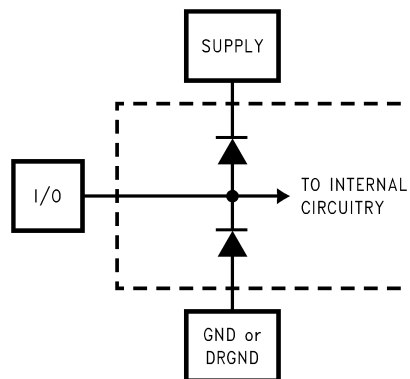

Figure 1.
- (1) The inputs are protected as shown below. Input voltage magnitudes above  $V_A$  or below GND will not damage this device, provided current is limited per (1). However, errors in the A/D conversion can occur if the input goes above  $V_A$  or below GND by more than 100 mV. As an example, if  $V_A$  is 4.75V, the full-scale input voltage must be ≤4.85V to ensure accurate conversions. See Figure 1
- (2) To ensure accuracy, it is required that  $|V_A - V_D| \leq 100$  mV and separate bypass capacitors are used at each power supply pin.
- (3) With the test condition for  $V_{REF} = +2.0V$  (4VP-P differential input), the 12-bit LSB is 977 μV.
- (4) Typical figures are at  $T_A = T_J = 25^\circ C$ , and represent most likely parametric norms. Test limits are specified to TI's AOQL (Average Outgoing Quality Level).
- (5) Integral Non Linearity is defined as the deviation of the analog value, expressed in LSBs, from the straight line that passes through positive and negative full-scale.
- (6) Optimum performance will be obtained by keeping the reference input in the 1.8V to 2.2V range. The LM4051CIM3-ADJ (SOT-23 package) is recommended for this application.
- (1) The inputs are protected as shown below. Input voltage magnitudes above  $V_A$  or below GND will not damage this device, provided current is limited per (1). However, errors in the A/D conversion can occur if the input goes above  $V_A$  or below GND by more than 100 mV. As an example, if  $V_A$  is 4.75V, the full-scale input voltage must be  $\leq 4.85V$  to ensure accurate conversions. See Figure 1
- (3) With the test condition for  $V_{REF} = +2.0V$  (4VP-P differential input), the 12-bit LSB is 977  $\mu V$ .
- (5) Typical figures are at  $T_A = T_J = 25^\circ C$ , and represent most likely parametric norms. Test limits are specified to TI's AOQL (Average Outgoing Quality Level).
- (6)  $I_{DR}$  is the current consumed by the switching of the output drivers and is primarily determined by load capacitance on the output pins, the supply voltage,  $V_{DR}$ , and the rate at which the outputs are switching (which is signal dependent).  $I_{DR} = V_{DR}(C_0 \times f_0 + C_1 \times f_1 + \dots + C_{11} \times f_{11})$  where  $V_{DR}$  is the output driver power supply voltage,  $C_n$  is total capacitance on the output pin, and  $f_n$  is the average frequency at which that pin is toggling.
- (7) Excludes  $I_{DR}$ . See previous note.
- (1) The inputs are protected as shown below. Input voltage magnitudes above  $V_A$  or below GND will not damage this device, provided current is limited per 0. However, errors in the A/D conversion can occur if the input goes above  $V_A$  or below GND by more than 100 mV. As an example, if  $V_A$  is 4.75V, the full-scale input voltage must be  $\leq 4.85V$  to ensure accurate conversions. See Figure 1
- (2) To ensure accuracy, it is required that  $|V_A - V_D| \leq 100\text{ mV}$  and separate bypass capacitors are used at each power supply pin.
- (3) With the test condition for  $V_{REF} = +2.0V$  (4VP-P differential input), the 12-bit LSB is 977  $\mu\text{V}$ .
- (4) Timing specifications are tested at TTL logic levels,  $V_{IL} = 0.4V$  for a falling edge and  $V_{IH} = 2.4V$  for a rising edge.
- (5) Typical figures are at  $T_A = T_J = 25^\circ\text{C}$ , and represent most likely parametric norms. Test limits are specified to TI's AOQL (Average Outgoing Quality Level).